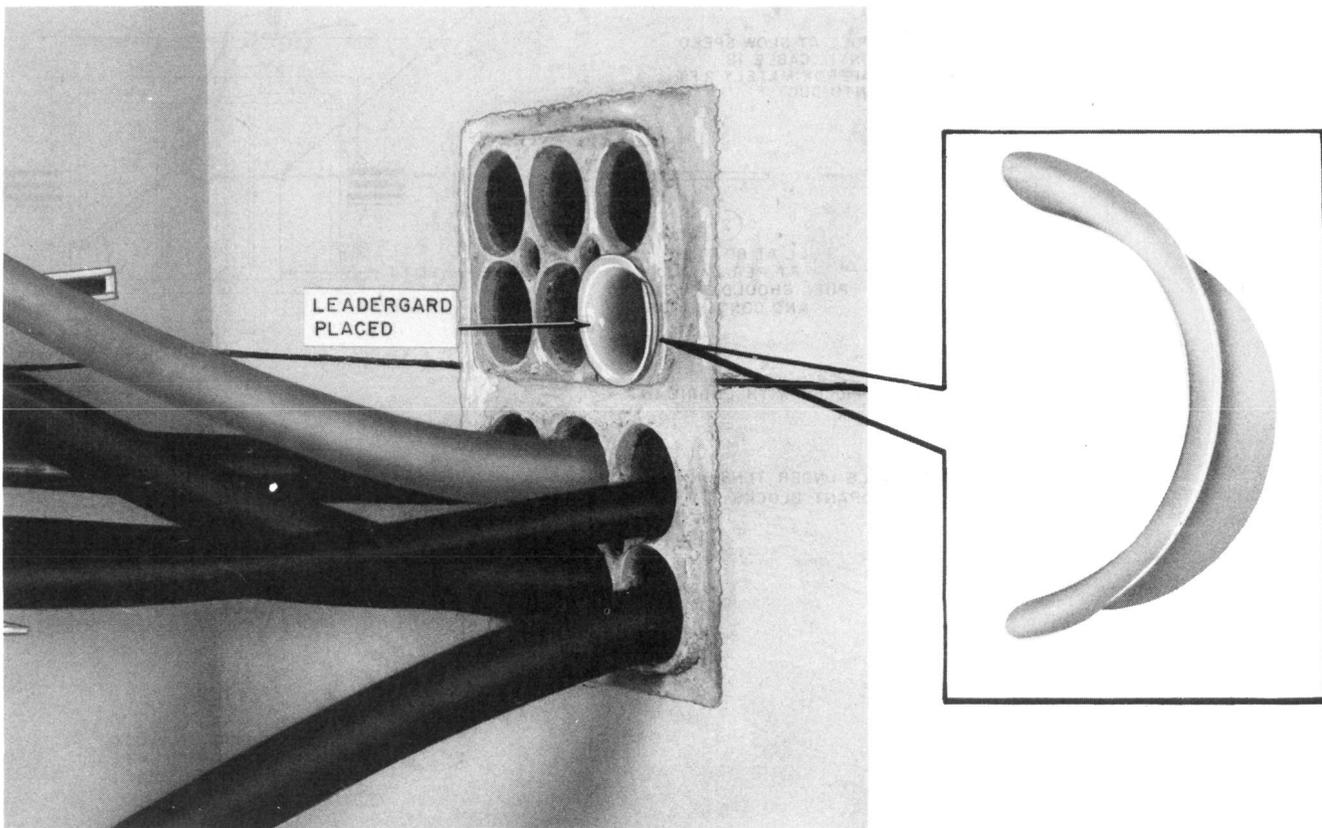

Fig. 15—LG-345 Leadergard
11.09 Figure 15 illustrates the LG-345 Leadergard™, a flanged nylon split-tube which can be inserted into a duct to prevent cable damage from sharp duct edges. It is particularly advantageous at pull-through manholes to guide the cable into the duct of the front section and to prevent cable sheath abrasion at the duct entrance. To place the leadergard, form it into a cylinder slightly smaller than the duct, and insert it into the duct.